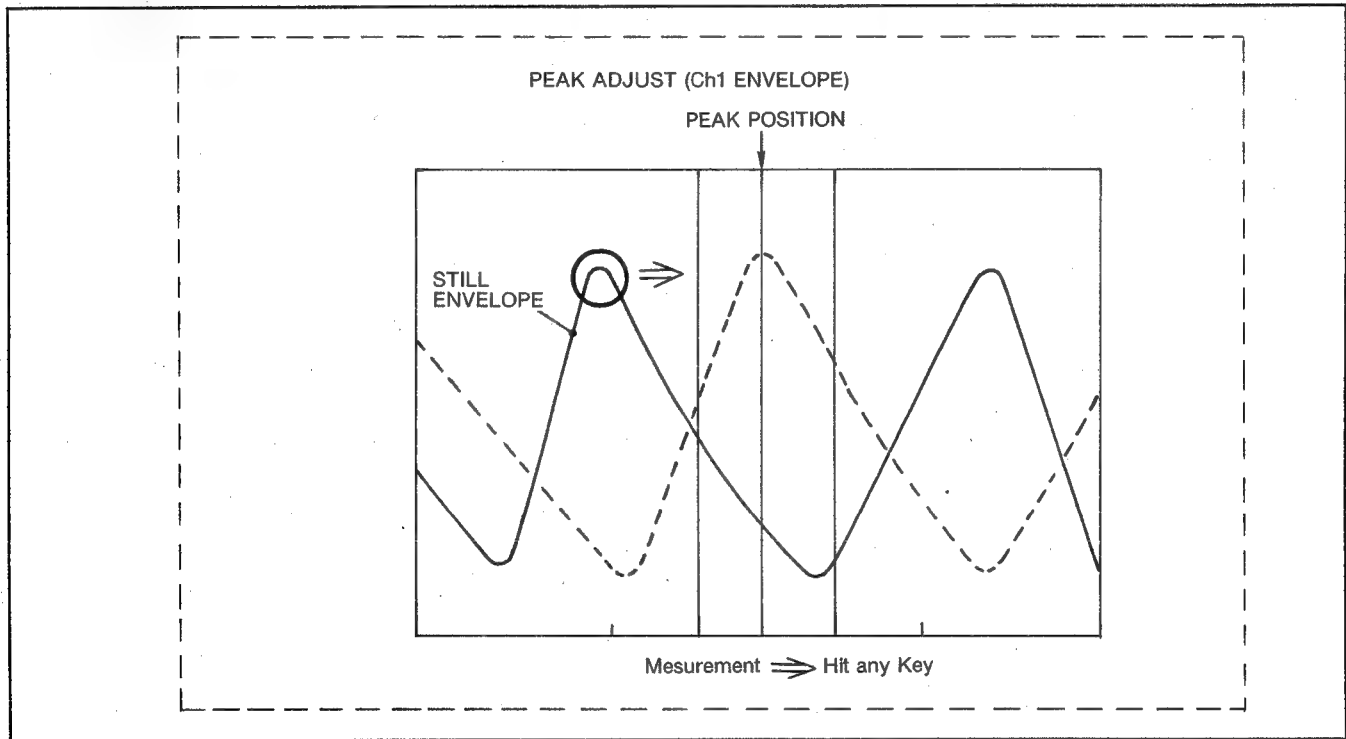

Fig. 8-3-1
- 3) Rotate capstan shaft slowly by hand so that the peak of Saw Tooth envelope is set to the peak position of Measurement Menu on Computer Display as shown in figure 8-3-1.